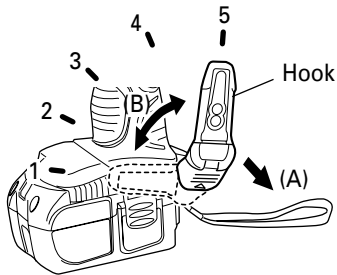

Fig. 10
- (1) Operating the hook
- (a) Pull out the hook toward you in the direction of arrow (A) and turn in the direction of arrow (B). (Fig.10)